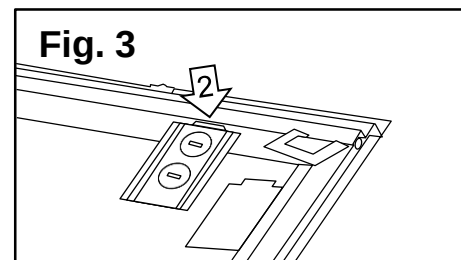
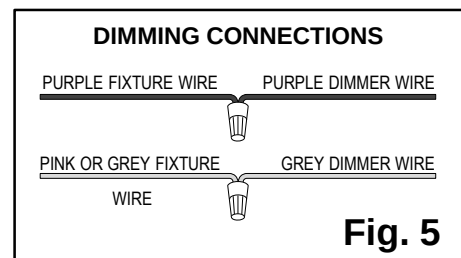

Fig. 3
Fig. 5
6. Remove one **knockout** in the **access plate** (#2) for the **power supply wires**. If you will not be using a dimmer, move to the next step; otherwise, remove the other **knockout** in the **access plate** (#2) for the **purple** and **pink/grey fixture dimming wires** (**Fig. 3**).
7. Remove the **access plate** (#2) located on the back of the fixture. Locate the **quick connector** for the **black** and **white fixture supply wires** (**Fig. 3**).
8. Thread the **power supply wires** through the **knockout hole** in the **access plate** (#2) (**Fig. 3**).
11. If using a dimmer, locate the **purple (+)** and **grey/pink (-) fixture dimming wires**. Thread the **dimming wires** through the other **knockout** in the **access plate** (#2) (**Fig. 3**). Connect the **purple (+)** and **grey/pink (-) fixture wires** to corresponding wires of the wall 0-10V **dimmer** (**Fig. 5**).